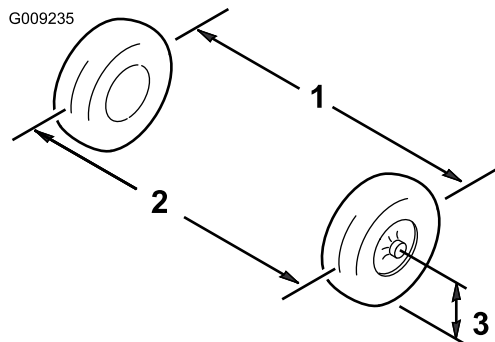

Figure 53
6. Measure the distance between both of the front tires at the axle height at both the front and rear of the front tires (Figure 53).